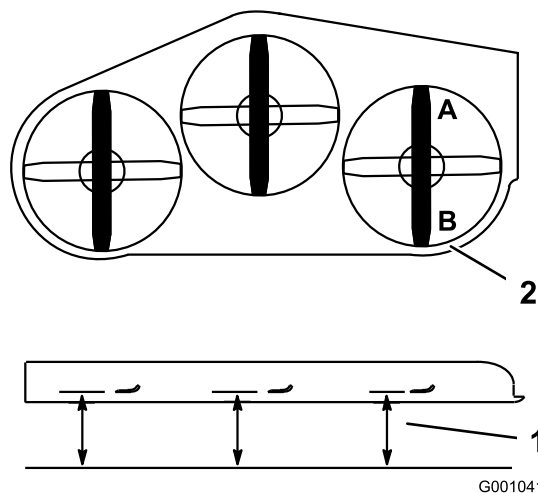

Figure 65
1. Position the **right** blade front-to-rear (Figure 65).
2. Measure the right blade at the **A** location, from a level surface to the cutting edge of the blade tip (Figure 65).
4. Measure the right blade at the **B** location, from a level surface to the cutting edge of the blade tip (Figure 65).
6. The mower blade should be a 1/4 to 3/8 inch (6 to 10 mm) lower at position **A** than at position **B** (Figure 65). If it is not correct, proceed to the following steps.